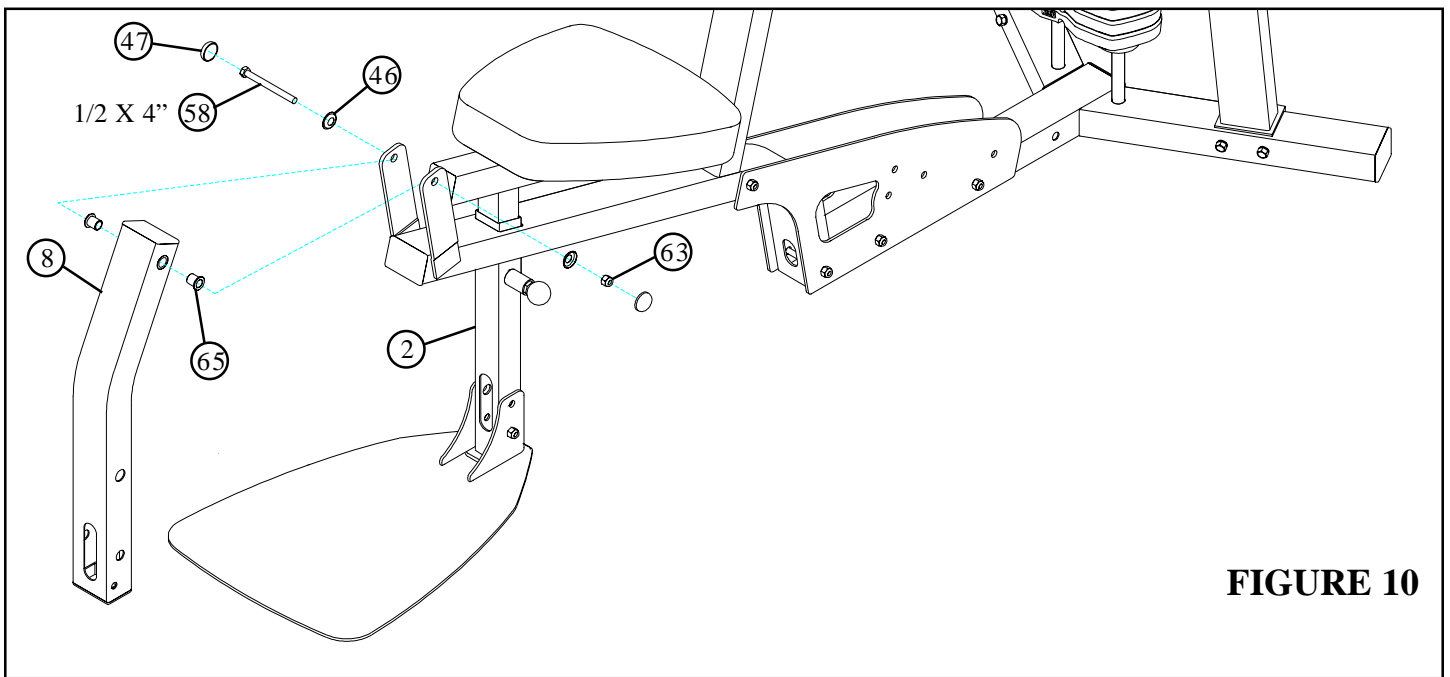

FIGURE 10
- Insert two 1/2" FLANGE BEARINGS (65) into the the LEG PEDESTAL (8) as shown in FIGURE 10.
- Assemble the LEG PEDESTAL (8) to the UPRIGHT (2) using two RH CAPS (47), one 1/2 X 4" BOLT (58), two 1/2" RH WASHERS (46), and one 1/2" LOW HEIGHT LOCK NUT (62). (**Note: Tighten this connection enough to remove excess play yet allow the LEG PEDESTAL to rotate freely.**)